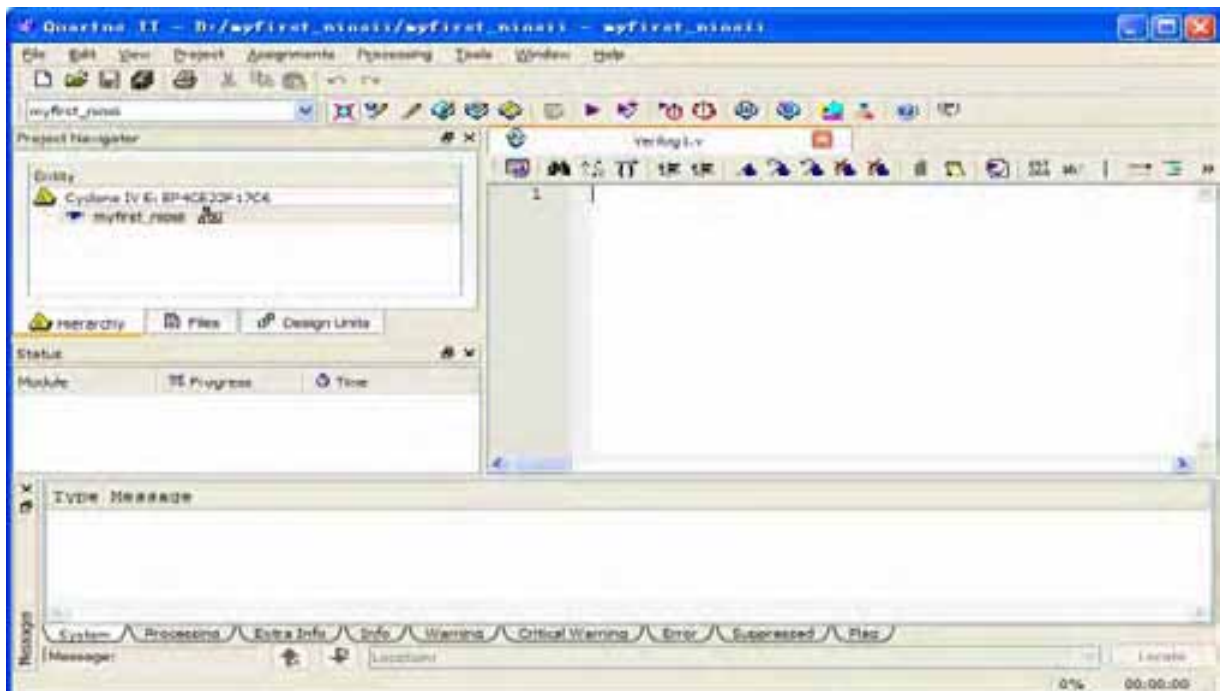

Figure 7-42 A blank verilog file
33. **Figure 7-42** show a blank Verilog file.